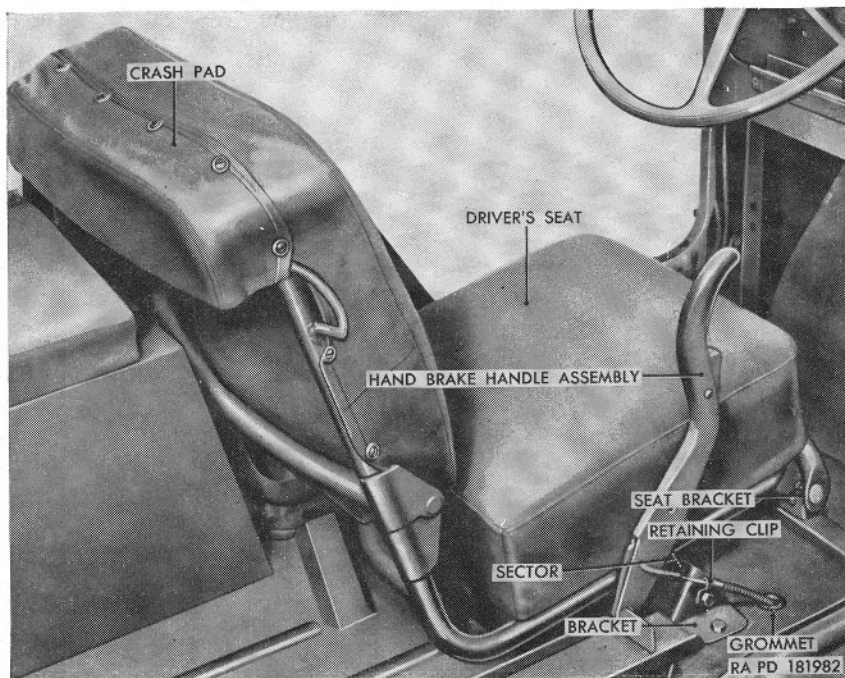
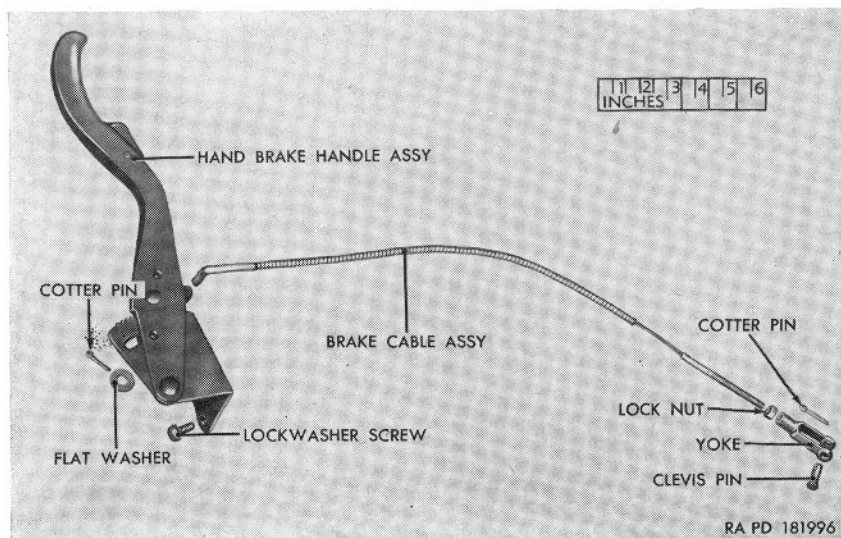
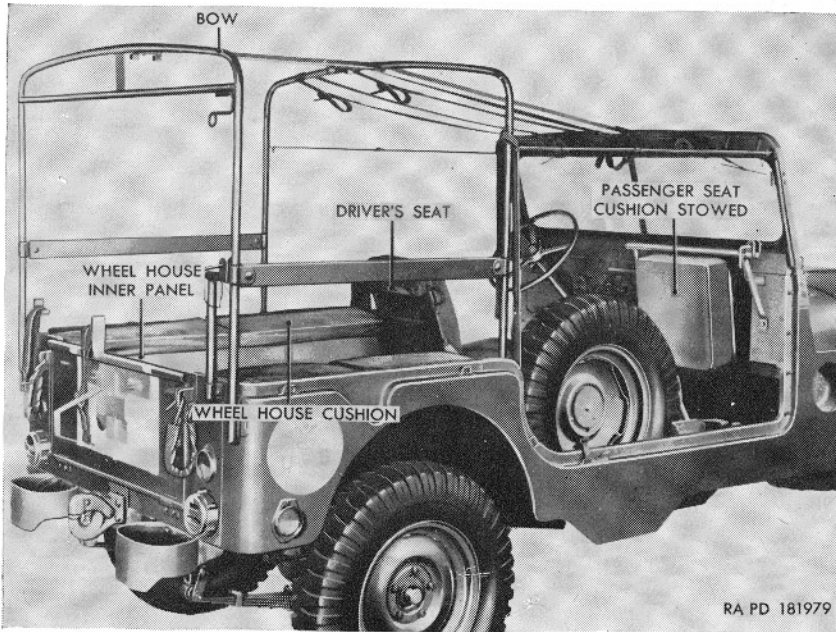
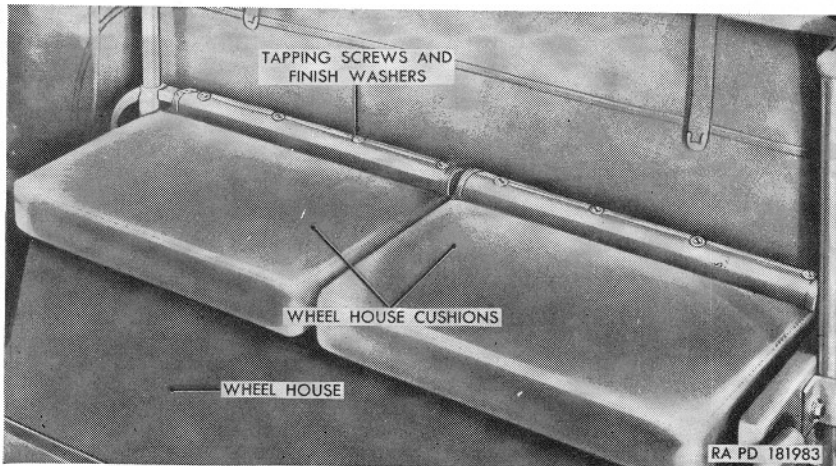

Figure 142.1. (Added) Hand Brake Handle and Driver's Seat Assemblies M170—Installed.
Figure 143.1. (Added) Hand Brake Assembly M170—Partially Exploded View.
Figure 158.1. (Added) Body 1/4-ton 4 x 4 front line ambulance M170.
Figure 158.2. (Added) Right wheel house cushions M170—installed.
c. (Superseded) *Hand brake.* The mechanical hand brake system is independent of the hydraulic service brake system. The hand brake serves primarily as a parking brake but can also be used to slow or stop the vehicle should the service brakes fail. When the brake is applied, an inner and outer shoe (fig. 143.1) contacts a brake drum mounted on the transfer companion flange. Drag on the drum slows or prevents rotation of the flange and rear propeller shaft, to slow or stop the vehicle. The hand brake handle is at the right of the driver's seat as shown in figure 142 for the M38A1 and figure 142.1 for the M170. The hand brake handle of the M170 is mounted to avoid interference with a patient on the lower litter rack. Difference in linkage can be seen by comparing figures 143 and 143.1.
- (1) Remove cotter pin and flat washer from cable assembly end (fig. 143.1) in driver's compartment. Remove grommet (fig. 142.1) from floor pan. Remove lockwasher screw from cable housing retaining clip (fig. 142.1). Spread clip and remove from cable housing.
b. Remove Hand Brake Handle Assembly (fig. 142.1).
- (1) Remove the cotter pin and flat washer securing the brake cable to the hand brake handle assembly and remove the cable from the handle.
- (2) Remove the three lockwasher screws securing the sector of the brake handle assembly to the bracket on the floor pan cover and remove the assembly from the vehicle.
- (1) *Brake cable assembly.* Loosen yoke lock nut (fig. 143.1). Unscrew the yoke from the cable assembly.
- (2) *Hand brake handle assembly.* Procedure for disassembly of the hand brake handle assembly M170 is the same as that for the M38A1 (par. 190d (2)).
- (6.1) (Added) *Brake cable assembly M170* (fig. 143.1). Replace a broken, frayed, or kinked brake cable assembly.
(7.1) (Added) *Cable adjusting yoke M170* (fig. 143.1). Replace a broken or otherwise damaged cable adjusting yoke.
b.1. (Added) Assemble Brake Cable Assembly M170 (fig. 143.1). Install yoke lock nut on threaded end of cable.
c.1. (Added) Install Hand Brake Handle Assembly M170 (fig. 142.1). Position the sector of the brake handle assembly on the bracket on the floor pan cover. Install the three lockwasher screws securing the brake handle assembly to the bracket.
- (1) Push brake cable up through holes in floor pans (fig. 26.8) with the yoke end down. Install retaining clip on cable housing (fig. 142.1). Position clamp (fig. 26.8) at rear of transfer and install lockwasher screw. Install clevis pin in yoke and hand brake lever (fig. 26.8) and secure with cotter pin. Install the cotter pin (fig. 26.8) in the cable assembly. Connect the tension spring to the skid plate and cotter pin in the cable. Install grommet in floor pan.
- (2) Insert the upper end of the brake cable assembly in the brake handle assembly and secure with a flat washer and cotter pin (fig. 142.1).
- (3) Insert a lockwasher screw (fig. 142.1) in the retaining clip and install the screw in the bracket.
a.1. (Added) *General M170.* The all steel, open-type body (fig. 158.1) of the ambulance is of seamed and welded construction. The body is equipped with a driver's seat (fig. 142.1), front passenger seat, and wheel house cushions (fig. 158.2), tool compartment, two medical supplies stowage compartments, battery stowage box, and bows for the installation of the top cover, side curtains, and doors. A well in front of the right wheel house provides for mounting the spare wheel and tire inside the body. A two-piece, folding-type windshield, with two windshield wiper vacuum motors, is secured to the body cowl. The formed sheetmetal hood and front fenders are removable. Access to the rear of the engine compartment, transmission, transfer, master cylinder and steering gear is provided by removable front floor pan covers and access plates. Reflex reflectors are bolted to the rear and sides of the body.
d. (Added) *Seat Assemblies M170.* The vehicle is equipped with a driver's seat, a front passenger seat (fig. 158.1), and four wheel house cushions (fig. 158.2) that serve as seats for rear passengers. The rear of the driver's seat is equipped with the driver's seat frame crash pad and cover (fig. 142.1).
b. Wheel House Seats. Remove the four oval-head tapping screws and finish washers (fig. 158.2) that secure each of the two right wheel house cushions to the top of the right wheel house seat and remove cushions from within vehicle. Remove the five oval-head tapping screws and finish washers that secure each of the two left wheel house cushions to the top of the left wheel house seat and remove the cushions from the vehicle.
b. Wheel House Seats. Position the two left wheel house seat cushions (fig. 158.2) in the vehicle and install the five oval-head tapping screws and finish washers in each cushion securing the cushions to the vehicle. Position the two right wheel house seat cushions in the vehicle and install four oval-head screws and washers in each cushion.